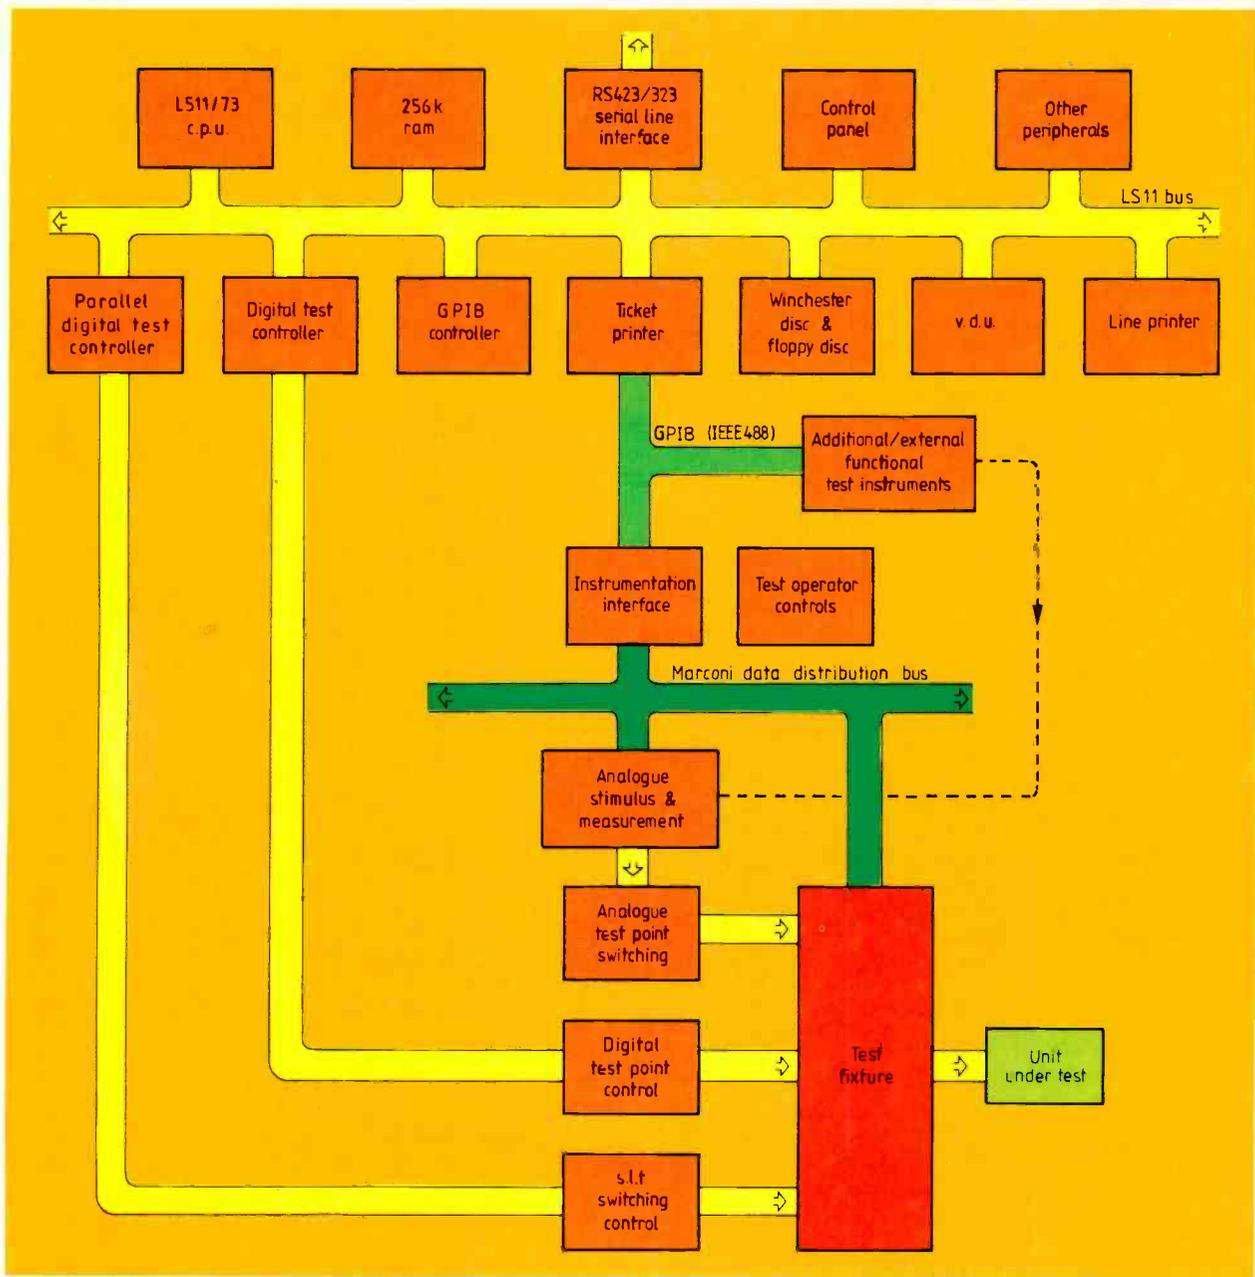

Fig.3. System architecture of an in-circuit tester.
**Producing the test program and fixture.** A block diagram of system architecture is shown in Fig.3. The central computer con-